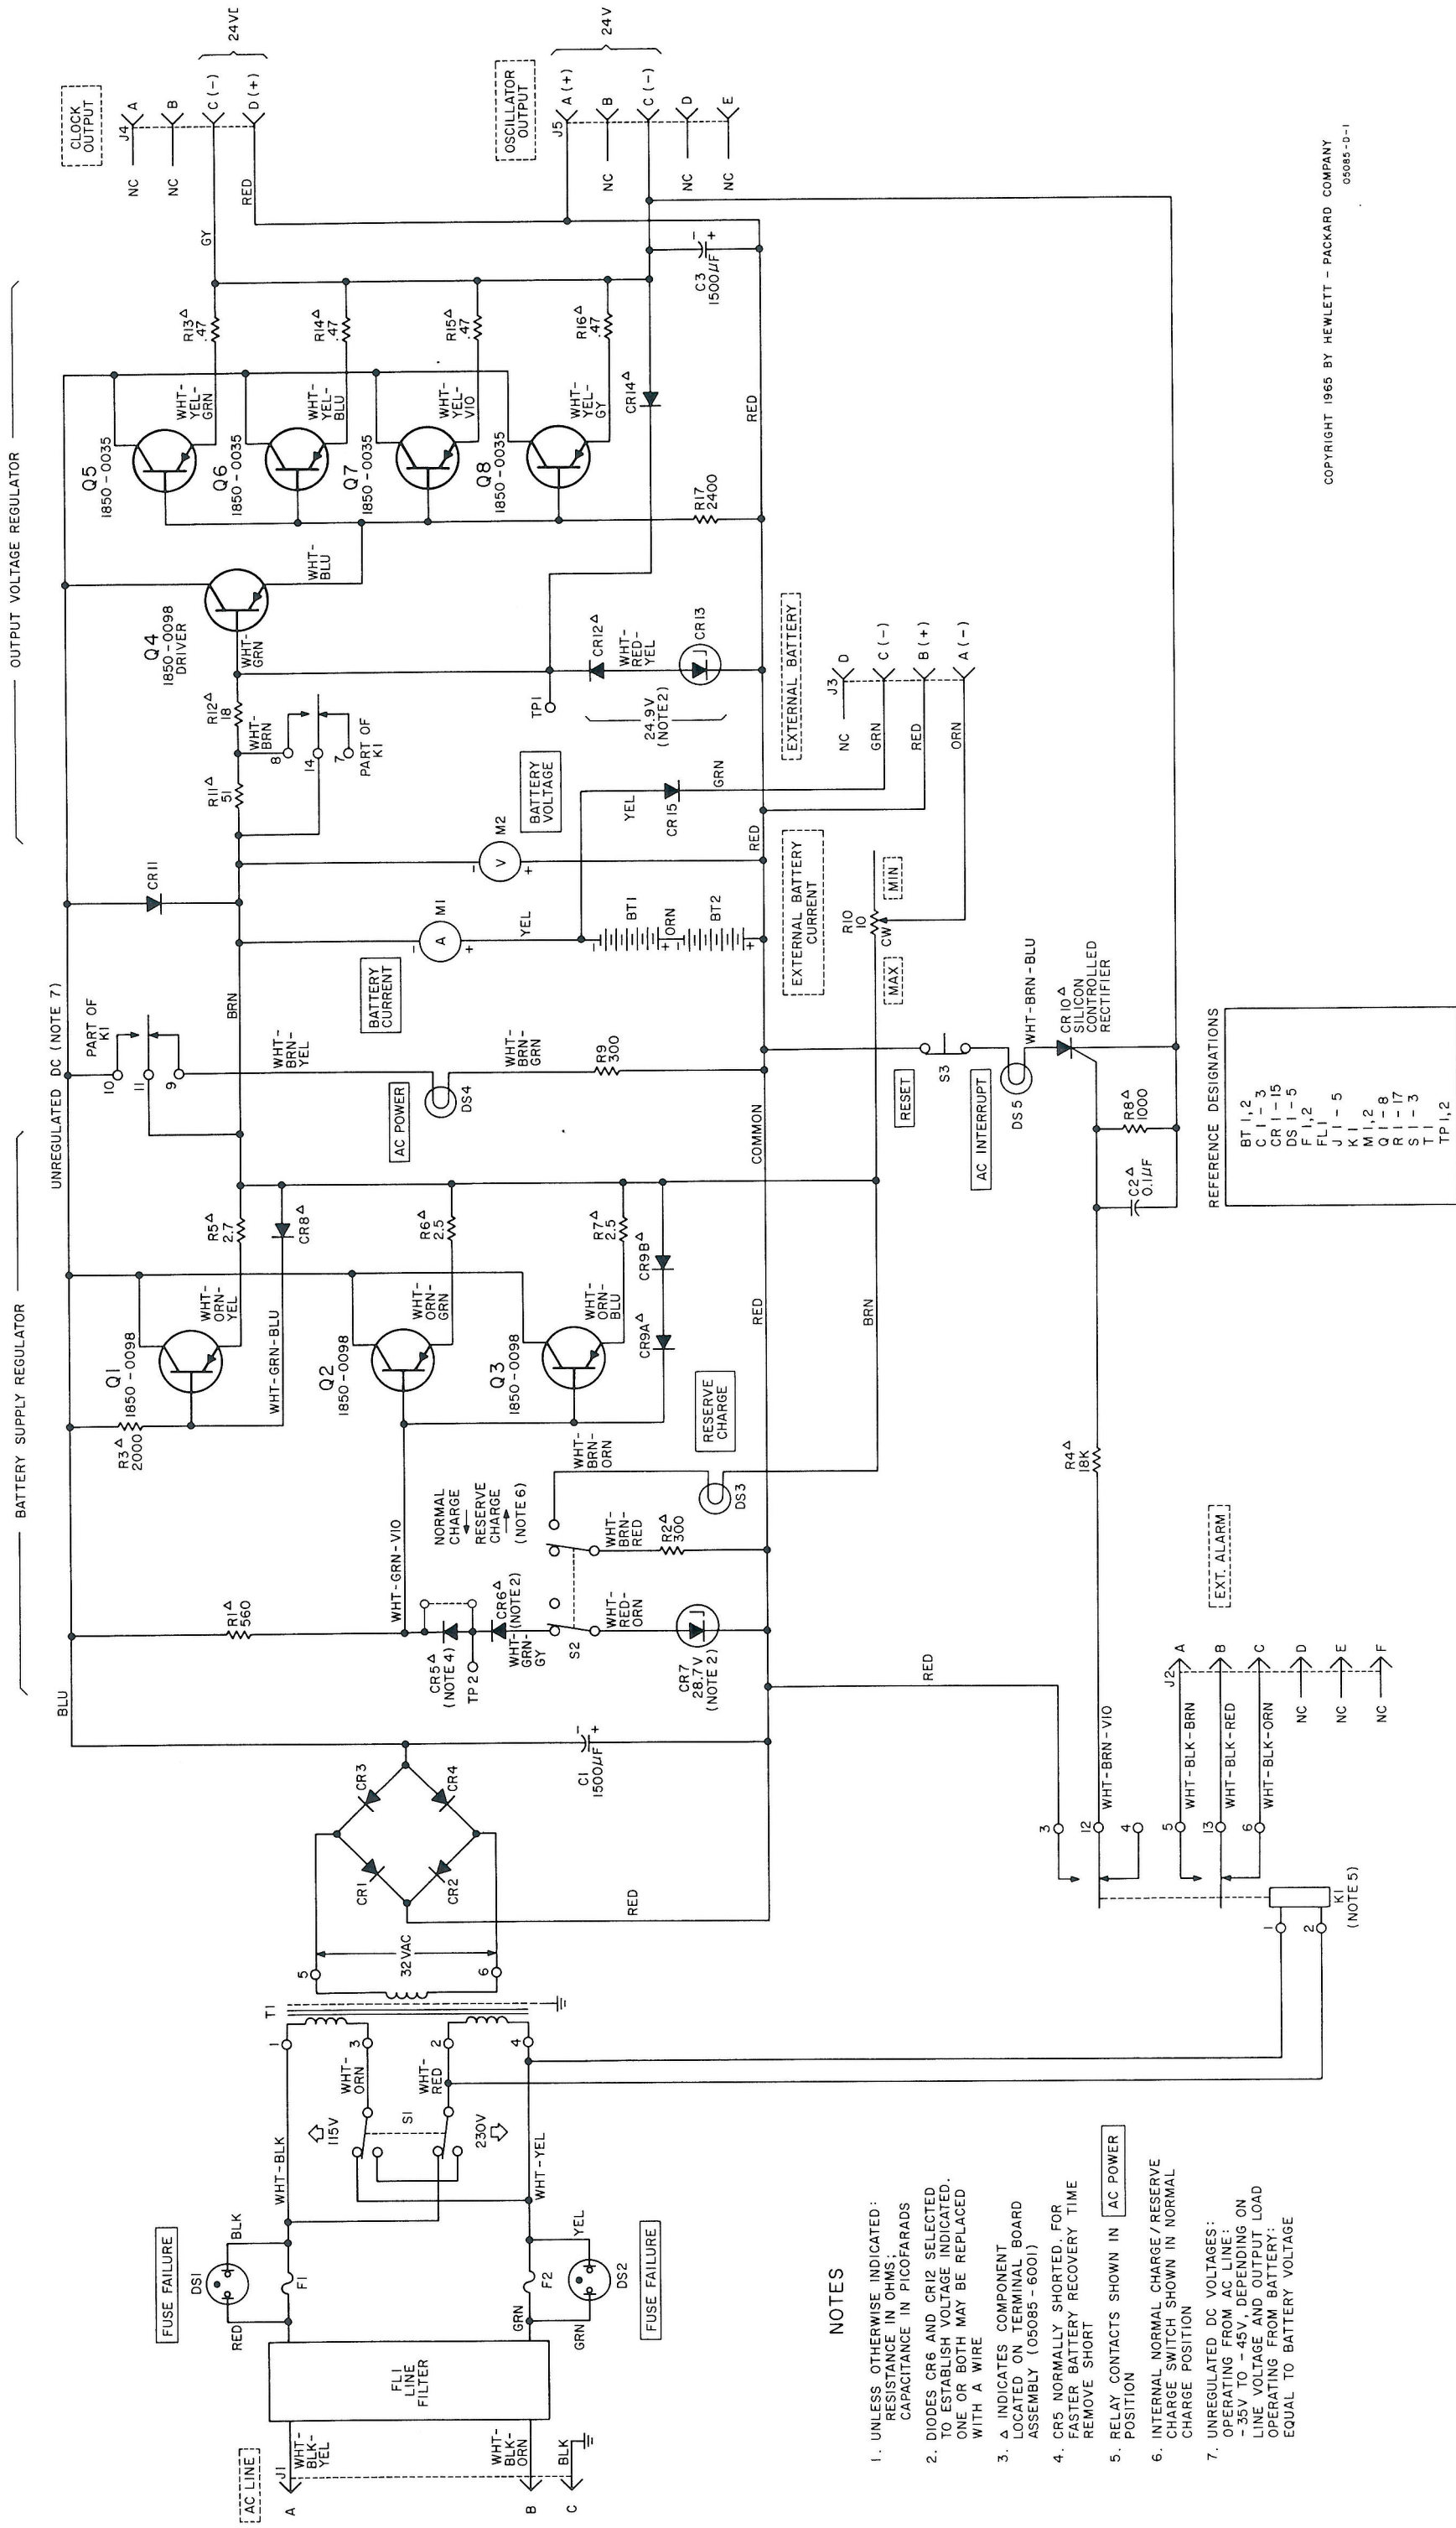

Figure 5-4. Schematic Diagram and Component List
h. Measure voltage at TP1 or TP2 (see Figure 5-4). Voltage at TP1 should be 24.8 to 25.8 volts; voltage at TP2 should be 28.7 to 29.6 volts. If either of these voltages is outside its allowable range, measure the voltage at junction of CR12, 13, or CR6, 7, and refer to Table 5-6 to determine amount of padding required.